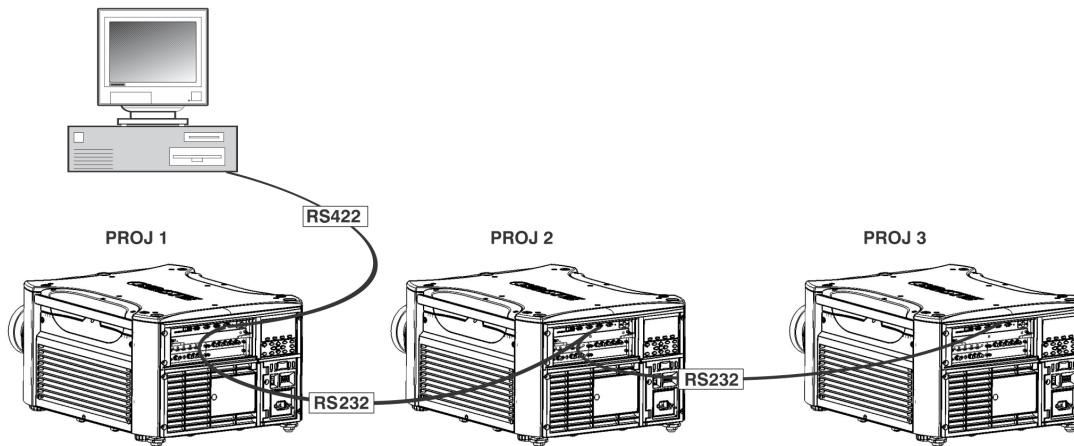

FIGURE 2-41 MIXED NETWORK
2. Chain the projectors together by connecting an **RS-232 OUT** (Null Cable) of the first projector (already connected to the computer/controller through the **RS-422** port straight thru to an **RS-232 IN** on the next projector in the chains). Continue connecting projectors in this manner until you’ve reached the last projector in the chain, so that only the last projector has one unused port **RS-232 OUT**, see Figure 2-41 Mixed Network.